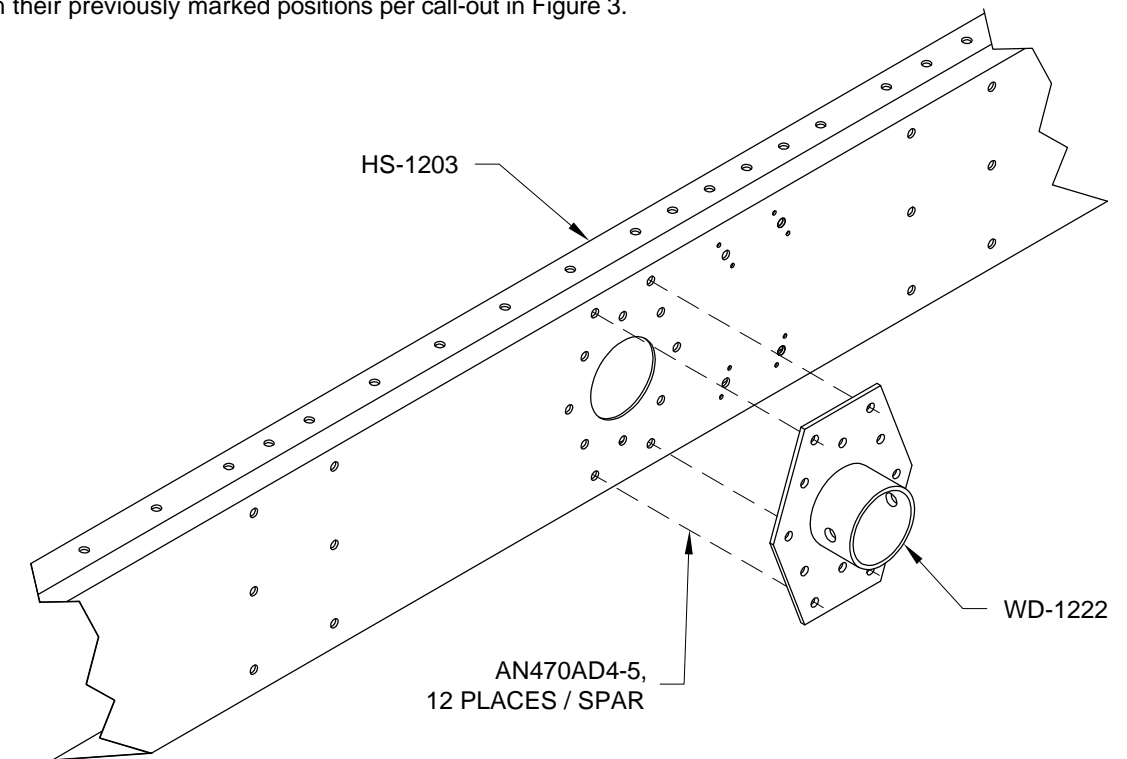

FIGURE 3:
Step 8: Rivet the WD-1222 Counterbalance Brackets to the HS-1202 Fwd and HS-1203 Aft Spar in their previously marked positions per call-out in Figure 3.